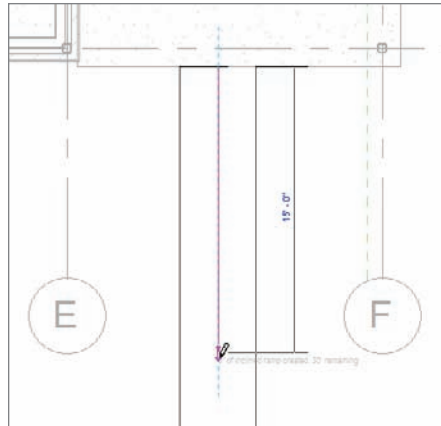

FIGURE 10.85 Pick the first point on the landing, then move your cursor down 15'-0".
16. In the model, click the first point for the ramp similar to the point shown in Figure 10.85. (You will have to just place the point near the midpoint. Revit does not allow you to snap while in this Sketch Mode for some reason.)
17. Move your cursor down the view (in a southerly direction) 15'-0" (you will see the temporary dimension), as shown in Figure 10.85.